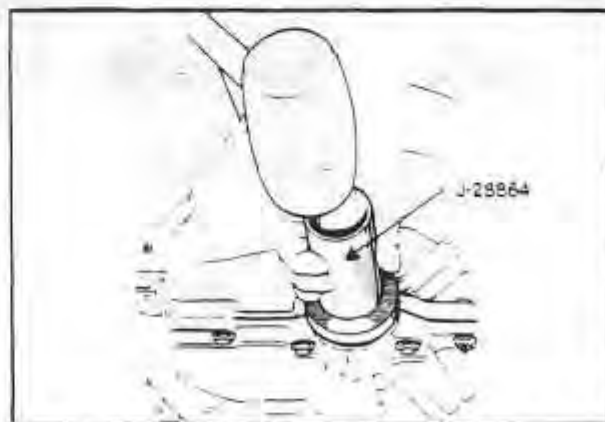

Fig. 85 CONVERTER SEAL INSTALLATION
4. Install the new torque converter seal in the housing using Tool J28864. Fig. 85